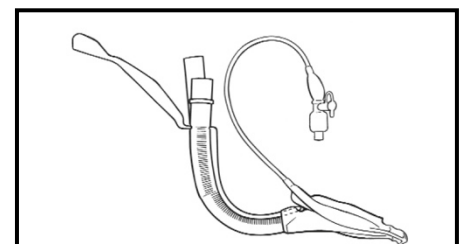

Figure 3: LMA[®] ProSeal[™] airway with LMA[®] ProSeal[™] Introducer in place.
- A location strap for the LMA[®] ProSeal[™] Introducer, which also accommodates the index finger or thumb for manual insertion (Figure 3).